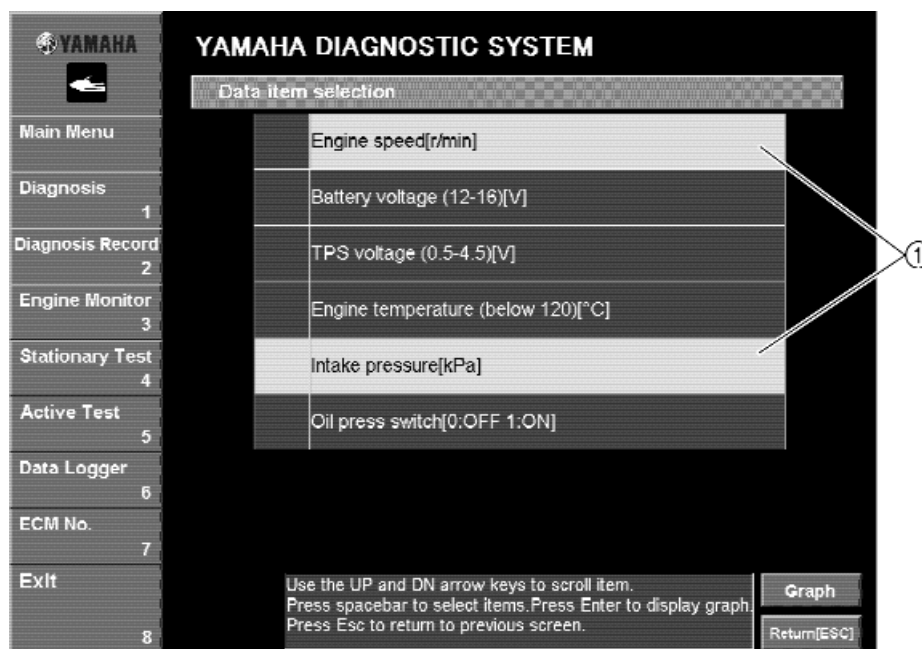
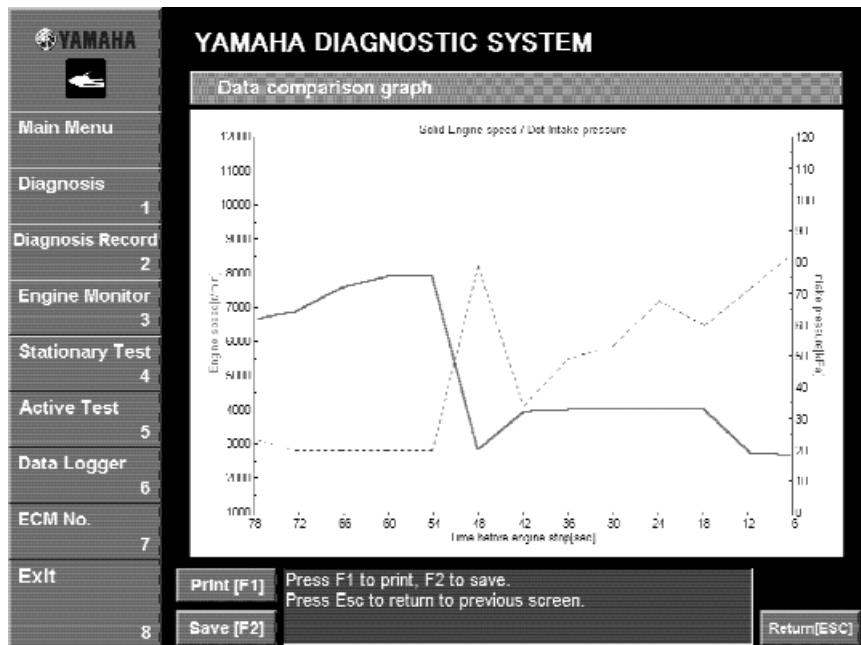

Fig. 60
Fig. 61
1. Select the desired items by either clicking them or pressing the up or down arrow keys on your keyboard, then pressing the space bar (Fig. 60).
2. Click the **Graph** button or press the Enter key on your keyboard. (Fig. 60) The **Data comparison** window is displayed (See fig. 61).
A line graph appears with the items selected in the **Data display item selection** window on the vertical axes and the **Time before engine stop** on the horizontal axis (Fig. 61).